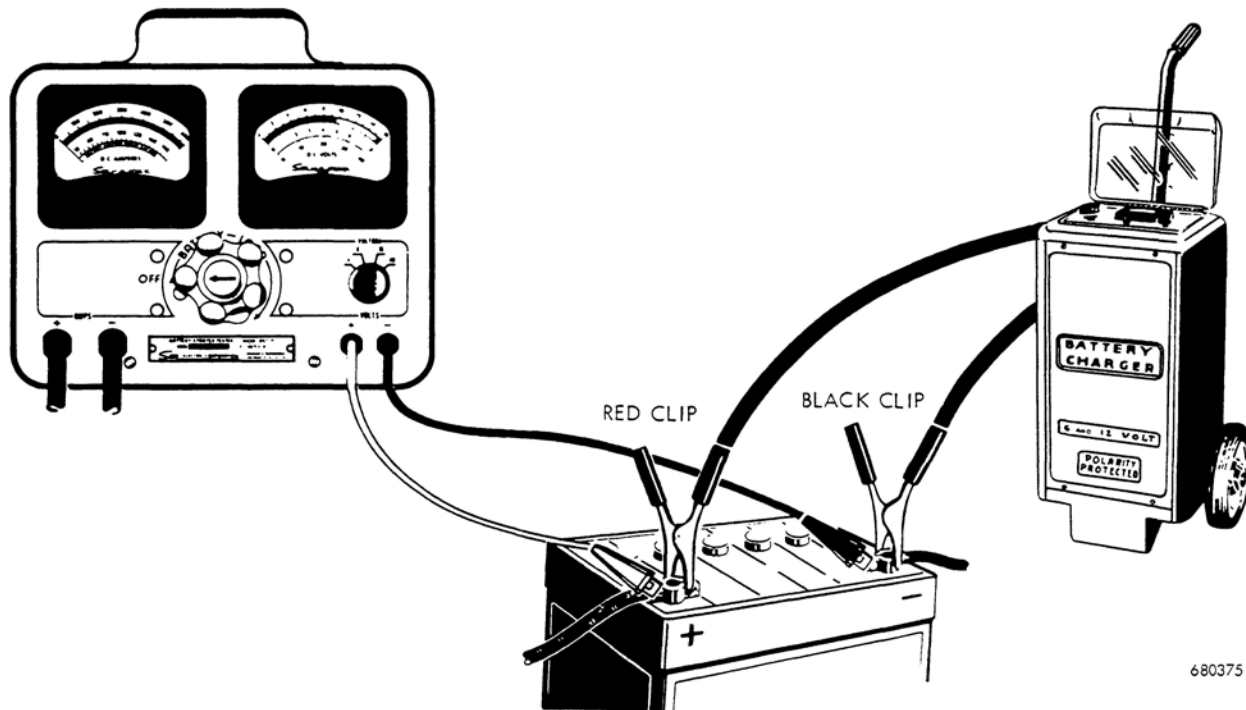

Figure 2
### **(Refer to Figure 2)**
2. Connect battery charger and voltmeter leads as shown in Figure 2: